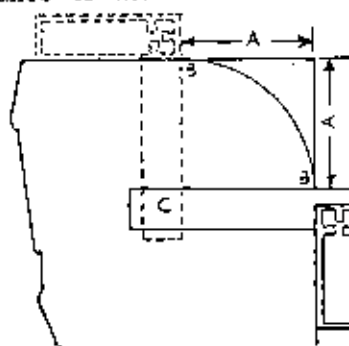

Figure 2-2-11.—Laying out a rounded corner on square stock.
To lay out a rounded corner on square stock, you will need a square and a set of dividers. Find the center of the arc (fig. 2-2-11) by measuring from the corner of the stock along the adjacent sides, a distance equal to the radius of the arc (A-A). Use a square and square in from points (B-B). The intersection of these lines will locate the center of the arc (C).
Place one leg of the dividers at C, (fig. 2-2-11), and rotate the dividers around this point as a center, allowing the other leg to scratch lightly the surface of the stock. This arc should fall in line with the edges of the board at points (B-B).